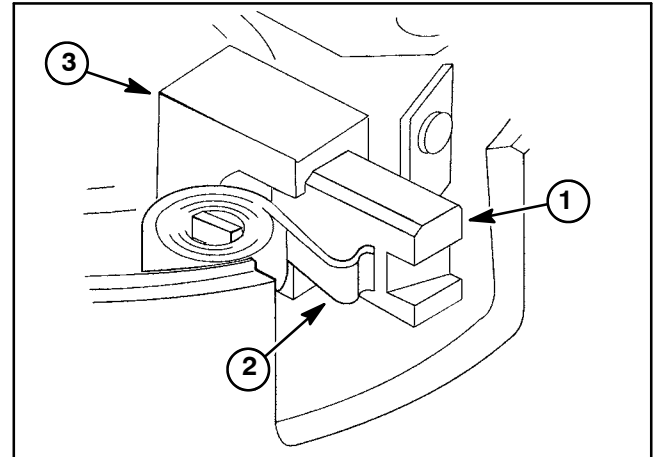
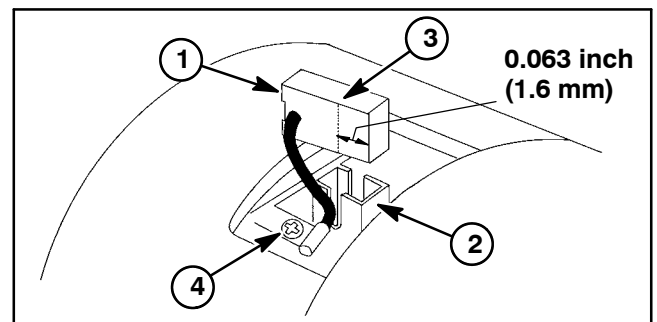
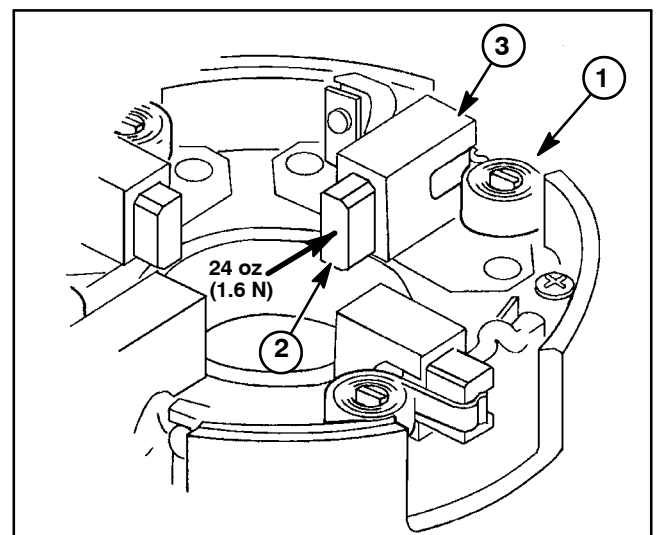

Figure 25
Figure 26
Figure 27
1. Remove brush covers from the commutator end cover. Lift brush springs from the notch at the end of the brushes while pulling the brushes out. Allow springs to hold brushes out from the center (Fig. 25).
B. If the length from the end of the brush to the wear line is less than 0.063 inch (1.6 mm), replace all four (4) brushes (Fig. 26).
A. Secure all four (4) brushes into their holders with the brush springs.
B. Using a spring scale, check tension on all four (4) brushes in the direction of the spring (Fig. 27).
C. Replace all four (4) springs if any spring's tension is less than 24 ounces (1.6 N).
8. Lift brush springs from the notch at the end of the brushes while pulling the brushes out. Allow springs to hold brushes out from the center (Fig. 25).
10. Slide brushes into holders. Secure brushes by positioning brush springs into the notch at the end of the brushes (Fig. 27).
- H. Lift brush springs from the notch at the end of the brushes while pulling the brushes out. Allow springs to hold brushes out from the center (Fig. 25).
- K. Slide brushes into holders. Secure brushes by positioning brush springs into the notch at the end of the brushes (Fig. 27).